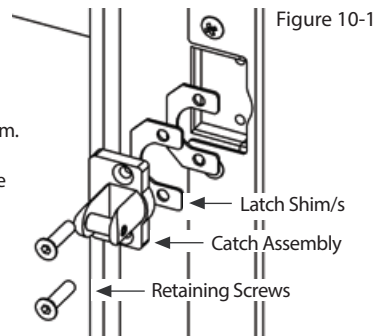

Figure 10-1
- Additional shims are available from your Jindara dealer. Refer to figure 10-1.